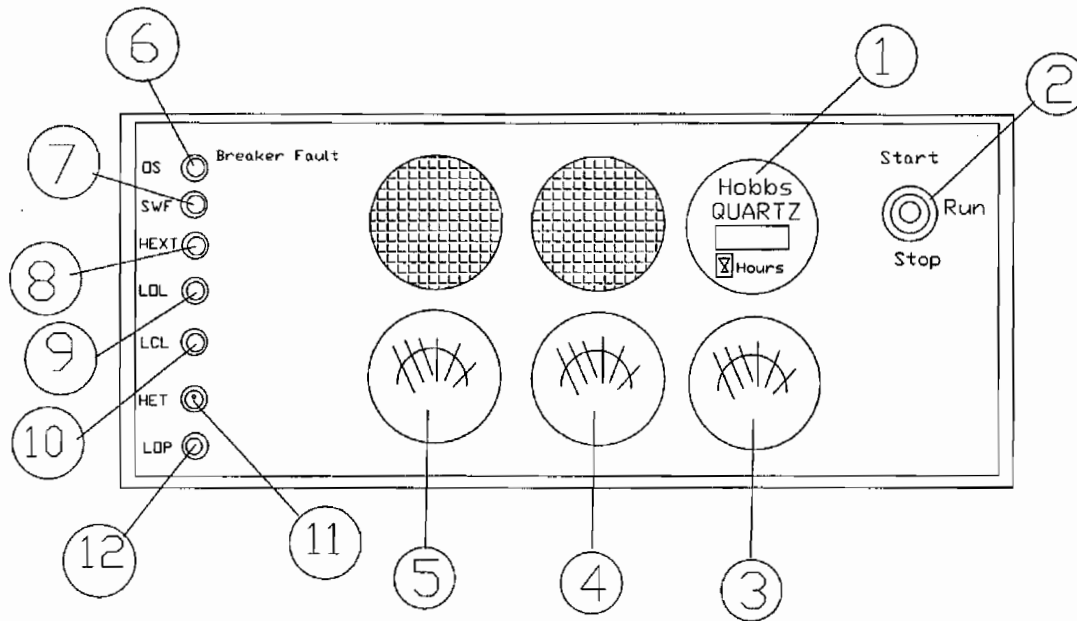

Figure 1-34. Generator Engine Instrument and Control Panel
- 1 Engine Instrument and Control Panel (Refer to Figure 1-34). The engine mounted control panel contains the controls and indicators necessary for operation of the engine. An Engine Control Module (ECM) displays service hours (1), system battery voltage (3), engine oil pressure (5), and engine coolant temperature (4) in US units and their metric equivalents. The following fault indicators are also on the control panel: overspeed (6), sea water fault (7), high exhaust temperature (8), low oil level (9), low coolant level (10), high engine temperature (11), and low oil pressure (12). The control panel also contains a three-way toggle switch (2) used to start, run, and stop the generator engine.